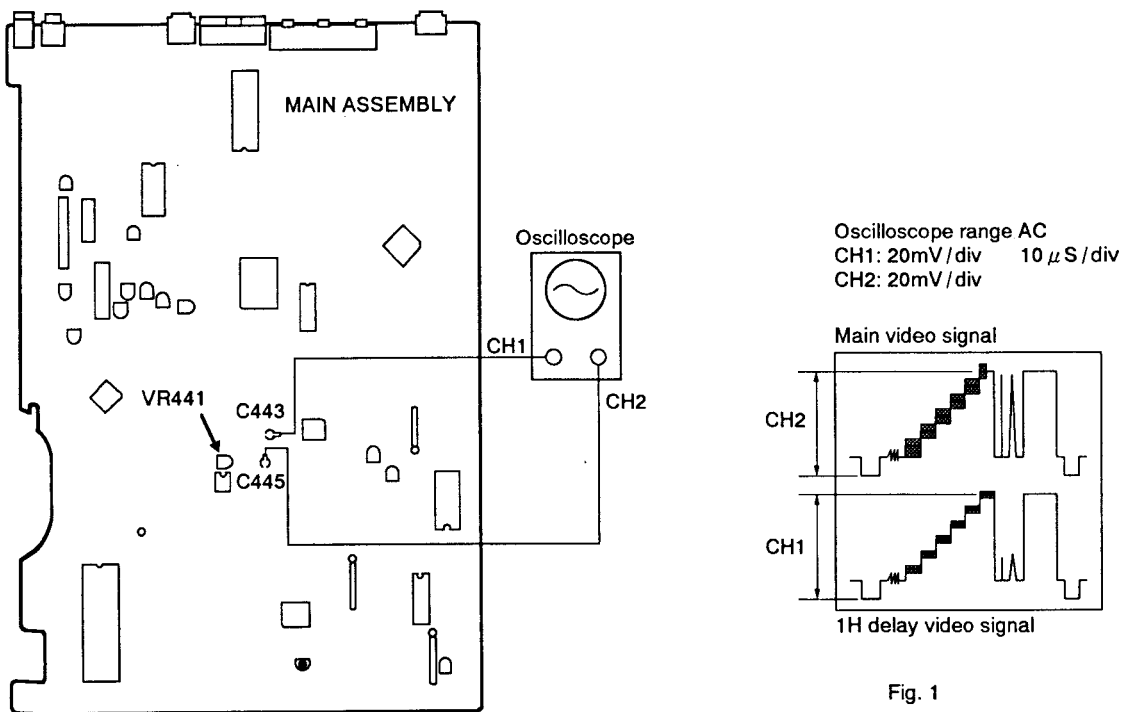

Fig. 1
3. Adjust VR441 so that the 1H delay video level (CH 1) becomes the same as the main line video level (CH 2). (See Fig. 1)